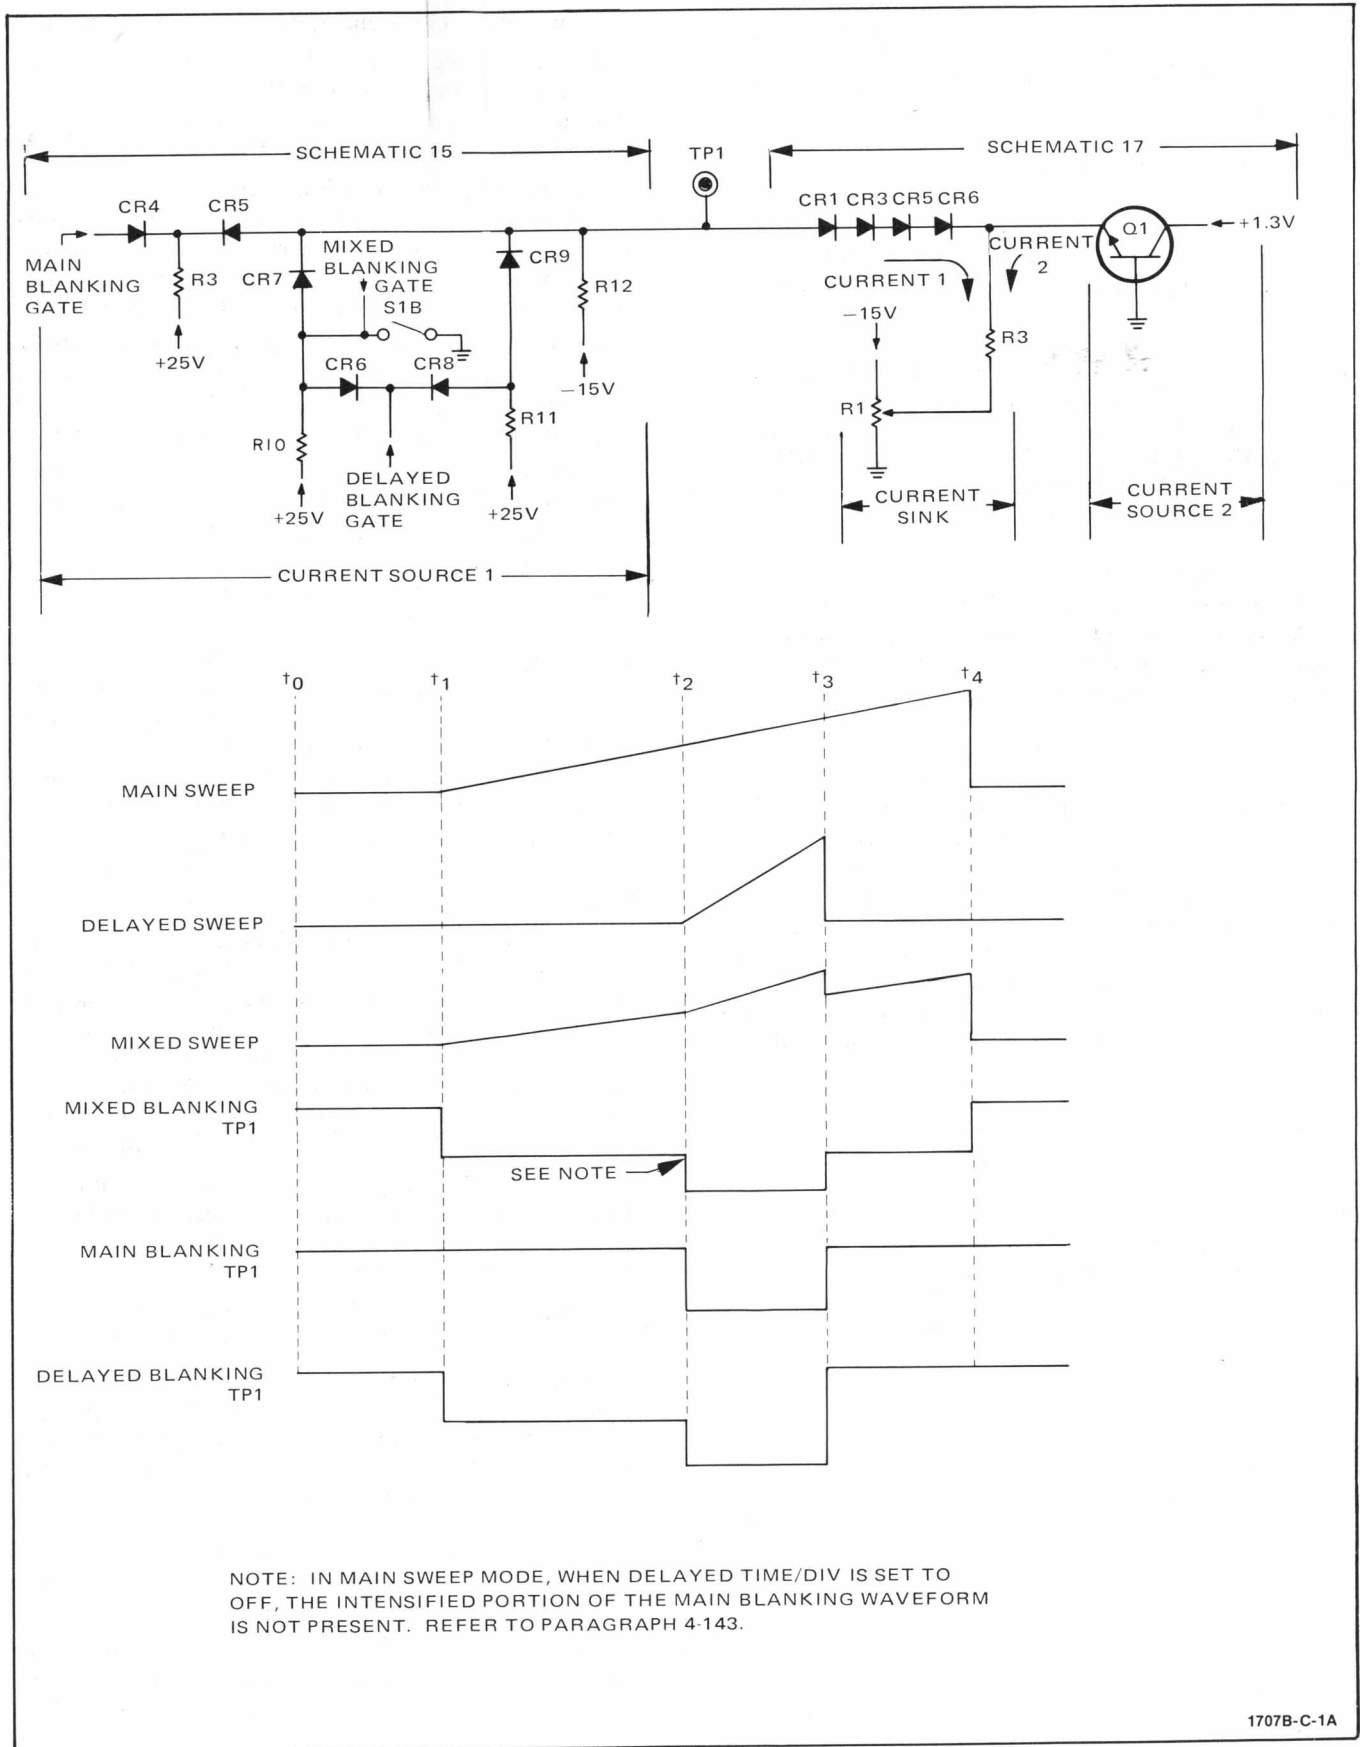

Figure 4-4. Blanking Sequence
4-134. Figure 4-4 is a simplified schematic showing part of the circuitry on schematic 15 and part of the circuitry on schematic 17. Current source 1 is controlled by three blanking gates and one switch. The main blanking gate comes from transistor switch A6A3Q1 on schematic 10. The delayed blanking gate comes from transistor switch A6A4Q1 on schematic 12. The mixed blanking gate comes from transistor switch A6A8Q2 on schematic 15. Each gate goes low at the appropriate time and grounds the diode(s) to which it is connected.
4-137. *Mixed Sweep Mode.* At the start of the mixed sweep cycle, the mixed blanking gate (figure 4-4) is closed and CR7 is turned off. Both main and delayed blanking gates are off, permitting R3 and R11 to supply current and blank the CRT as in main mode. At time  $t_1$ , the main blanking gate closes, CR4 turns on, CR5 turns off, and again, only R11 supplies current, permitting the CRT to turn on. At time  $t_2$ , the delayed blanking gate closes. At this time the mixed blanking gate opens but, because the delayed blanking gate is closed, R10 is still unable to supply current. When the delayed blanking gate closes, CR8 turns on and CR9 turns off. Current source 1 supplies no current to the current sink while current source 2 supplies maximum current. Under this condition, the CRT is at maximum brightness (intensified). At time  $t_3$ , the delayed blanking gate turns off. CR6 and CR8 turn off, CR7 and CR9 turn on, and both R10 and R11 supply current to the current sink. The combined currents are enough to blank the CRT. The events between  $t_3$  and  $t_4$  continue to take place but are not seen because the CRT is blanked. At time  $t_4$ , the main blanking gate opens and the mixed blanking gate closes. R10 ceases to supply current but R3 starts supplying current; the net result being that the CRT continues to be blanked. At the start of the next main sweep, the entire process will repeat.
4-138. *Delayed Sweep Mode.* In the delayed sweep mode, the mixed blanking gate (figure 4-4) is open during the entire cycle. At the start ( $t_0$ ) of the process, the main and delayed blanking gates are open and current is supplied from R3, R10 and R11. At time  $t_1$ , the main blanking closes. CR4 turns on, CR5 turns off, and R3 ceases to supply current. Because the delayed and mixed blanking
**4-139. Mixed Sweep Blanking Circuit.** The mixed sweep blanking circuit (schematic 15) consists of emitter follower A6A8Q1, enabling gate A6A8U1A, R-S flip-flop A6A8U1B/A6A8U1C, and transistor switch A6A8Q2. The purpose of the circuit is to turn A6A8Q2 on and off (mixed blanking gate in figure 4-4) at the proper time.